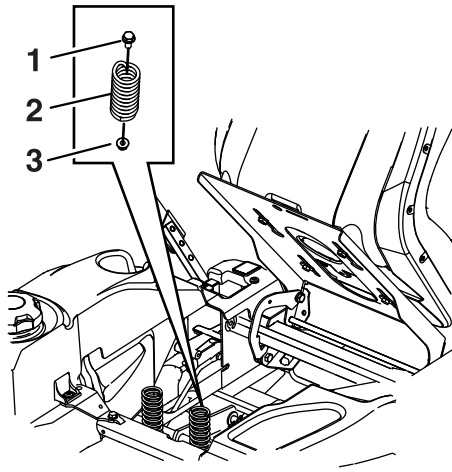

**Figure 18**
1. Push the adjustment lever towards the center of the machine to release the seat adjuster track (Figure 18).